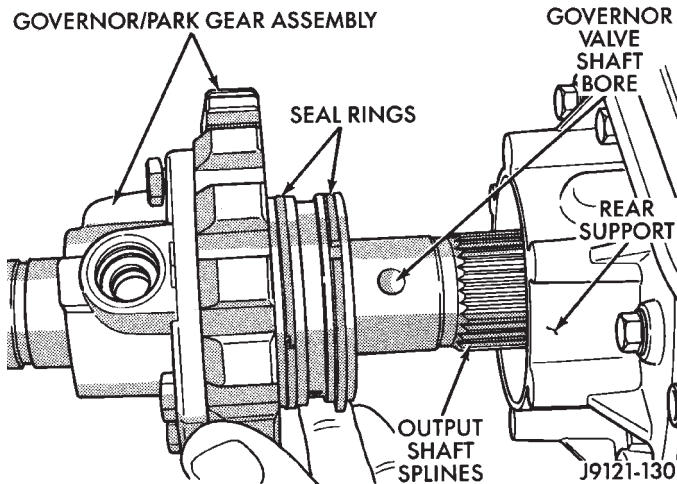

Fig. 20 Removing/Installing Governor Body And Park Gear
(30) Loosen bolts attaching governor body to park gear.
(31) Mark position of governor body on park gear with center punch or scribe.
(32) Remove governor body and park gear as assembly (Fig. 20). Work park gear out of rear support and slide assembly off output shaft.